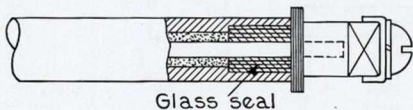
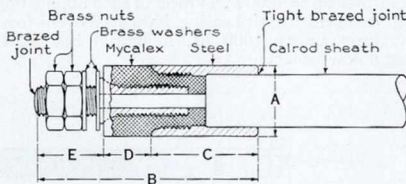

Fig. 4
Fig. 5
† This unit has glass seals and terminals as illustrated in Fig. 4, page 8.
Where unit terminals are subject to accidental contact with oil, water, or other liquids, it is highly desirable that the ends of the unit be sealed against the entrance of such liquids. Similar precaution must be taken against carbonaceous or chemical fumes. Such protection can be obtained by the glass seal (Fig. 4) or the mycalex seal (Fig. 5), both developed by General Electric.
As illustrated below, the glass seal is put *inside* the tube or sheath of the Calrod unit. Standard terminals are then assembled—the nut-type, Fig. 1, is usually supplied, though the screw-type, Fig. 4, can be supplied on request at no change in price.
* These heaters differ from the others in that they are installed from within the container instead of being screwed in from the outside. Therefore, they are provided with a shoulder on the header and with the necessary gasket and tightening nut. See Fig. 4.
Water-immersion Heaters with Switch in Cap (Fig. 5)